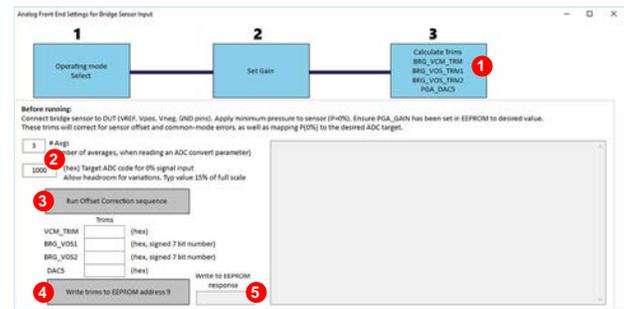

Figure 19. How to Set AFE Trims in the EVAL-ADA4558EBZ Software
2. To open the trim calculation page, click the **Calculate Trims** button (Label 1 in Figure 19).
3. Enter the target ADC code (Label 2 in Figure 19), which is the target ADC code for the input bridge signal of 0%. The recommended value is 1000 hex to allow for variations.
4. Click **Run Offset Correction sequence** (Label 3 in Figure 19) to run the trim calibration sequence and display this sequence in the text window. Note that the trim results display as a hex ADC code in the four text fields (VCM_TRIM, BRG_VOS1, BRG_VOS2 and DAC5). For further details on the calibration procedure, see the ADA4558 Hardware Reference Manual.
5. Click **Write trims to EEPROM address 9** (Label 4 of Figure 19) and verify that the **Write to EEPROM response** returns **Positive** (Label 5 in Figure 19).